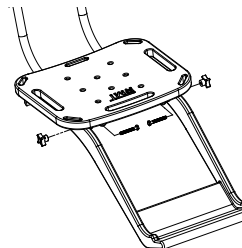

Figure 4: The cable, as it should appear to be under the Housing cover.
19. Figure 4 illustrates the correct attachment of the motor cable under the housing cover. Rotate the lift back and forth while observing the cable to ensure the cable does not become entangled in the gear assembly.